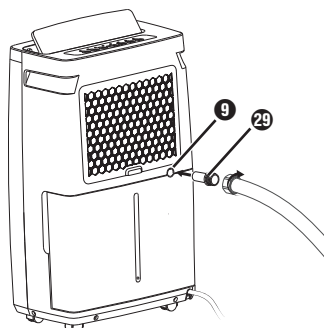

Fig. 4
- ◆ When using the EU garden hose adapter ❹, screw a garden hose onto the EU garden hose adapter ❹ (see figure 4).